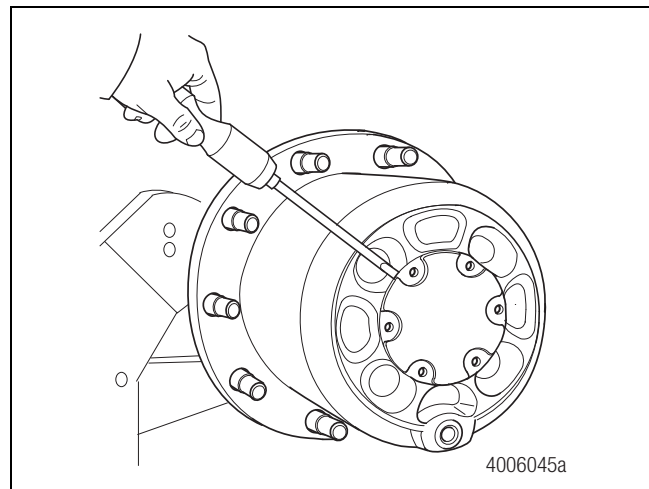

Figure 3.2
5. Use a screwdriver or pry bar to pry up and remove the hub cover. Figure 3.2.